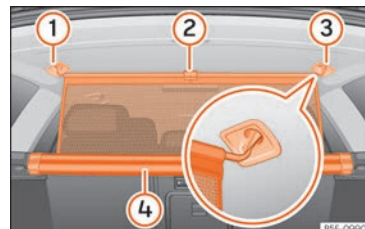

Fig. 179 In the boot: securing the partition net.
- Pull up handle »» Fig. 179 (2) to remove the net from the casing (4).